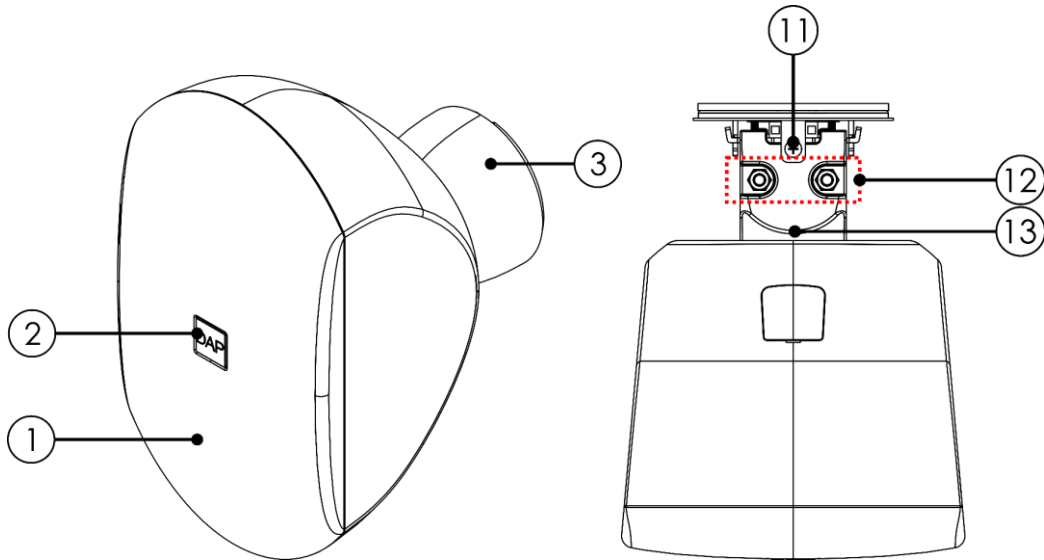

Fig. 21
- 01) Fold the **rubber ball-joint cover (03)** to get access to the **adjustment screws (12)**.
- 02) Loosen the **adjustment screws (12)** with the hex key (Fig. 21).